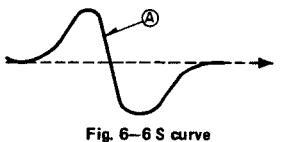

Fig. 6-6 S curve
- Output voltage ② changes as negative → positive at this time.
- Further, the S curve of focus changes as shown in Fig. 6-6.
Focus servo is applied with point ④ shown in Fig. 6-6 as the actuation point. In general, the time when focus search is made and the focus servo switch is ON during passage through point ④. Furthermore, ANDing is made with focus OK signal (FOK) in order to prevent maloperation.